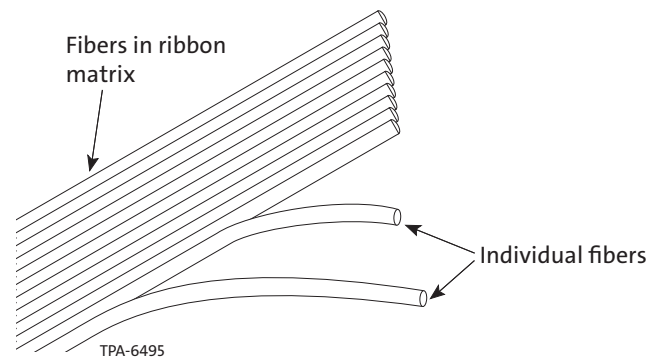

Figure 12
Step 4: If access to individual fibers in a ribbon is required, refer to SRP-004-076, Accessing Individual Fibers in Corning Optical Fiber Ribbons Using the TKT-060 Kit (Figure 12).